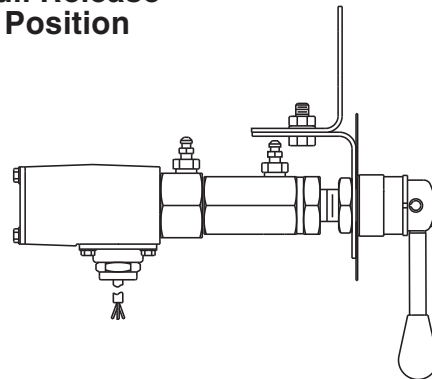

FIGURE 2
2. Move lever of MICO lock to full release position as indicated on dash plate (Figure 2).